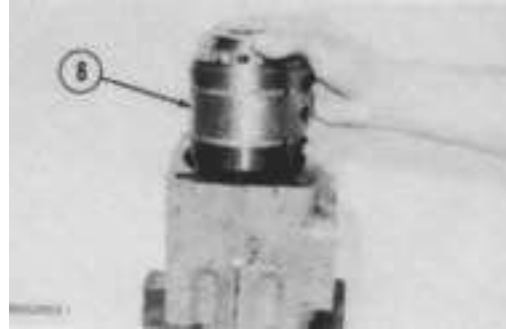

FIGURE 7-40
4. Set the cartridge (8, Figure 7-40) into the pump housing.